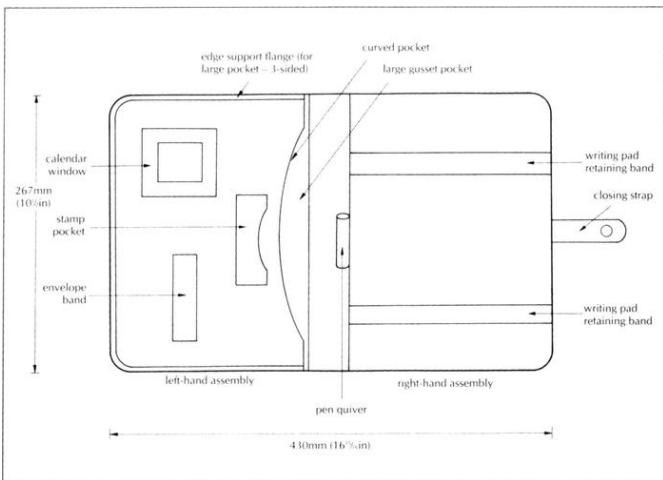

Fig 143 **Writing case.** Plan with dimensions.
2. Place RHA as in Fig 143, with central cover strip overlapping the silk-covered card. Ensure that the card panels are in line and that the gap between them is 25mm (1in) (card-edge to card-edge). Stick central cover strip to silk and card panel, then prick out and stitch along this line.